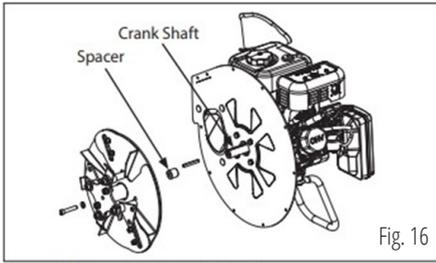

Fig. 16
The chipping knives should be sharpened or replaced when tree limbs require extra force to feed into the chipper cone. The chipping knives may be sharpened at a 30 degree angle until the distance between the edge of the blade bevel and the mounting hole is less than 1/16" (1.6mm). SEE FIGURE 16.
3. Remove the rotor by removing the hardware that secures it to the engine crank shaft. SEE FIGURE 16